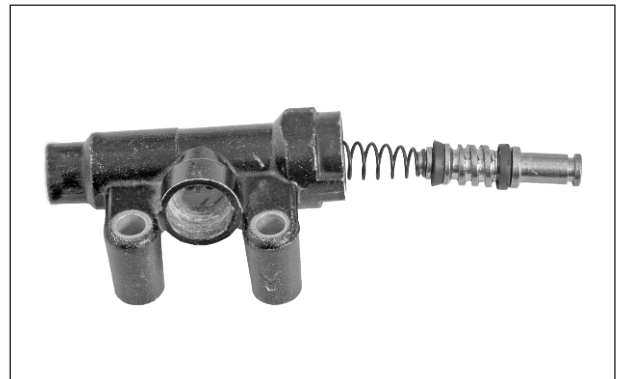

Fig. 6.129
- Slowly pull out the piston along with P - cup, S - cup and spring. (Fig. 6.129)